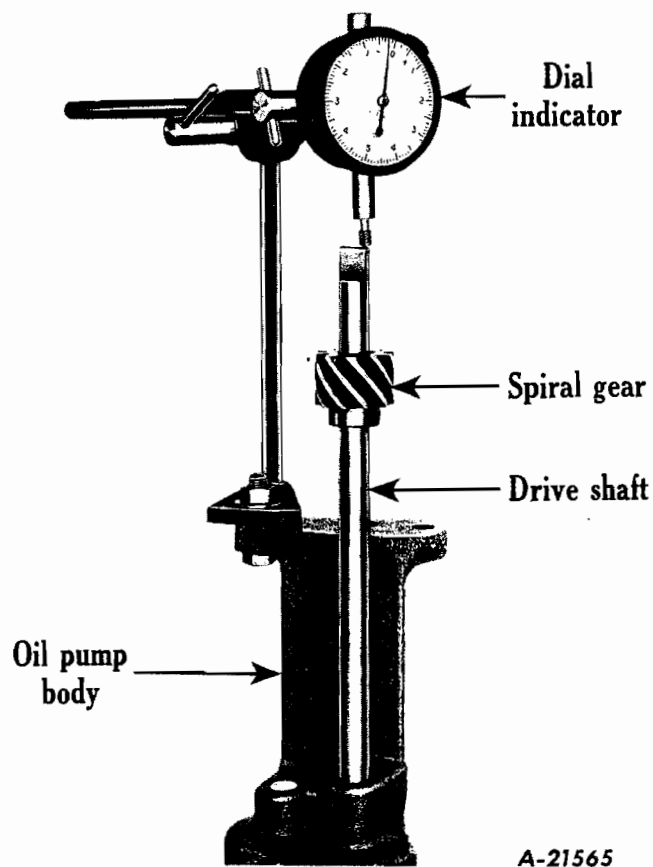

Fig. 50 - Checking end clearance of pump shaft and body gear.
6. Check oil pump body gear end clearance by using a dial indicator (Fig. 50). If end clearance is less than .0025" add one gasket that measures not more than .003" in thickness. If end clearance is in excess of .0055" remove one gasket of not more than .003" in thickness. Body gear end clearance should measure between .0025" and .0055".